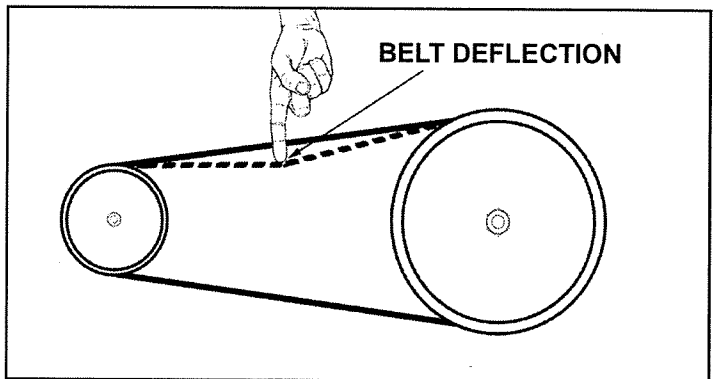

FIGURE 23
3. Tension the drive belt so there is about $\frac{3}{8}$ " to $\frac{1}{2}$ " deflection. DO NOT over tension the belt as this can put excessive, damaging pressure on the belt, pulleys and motor. FIG. 23.